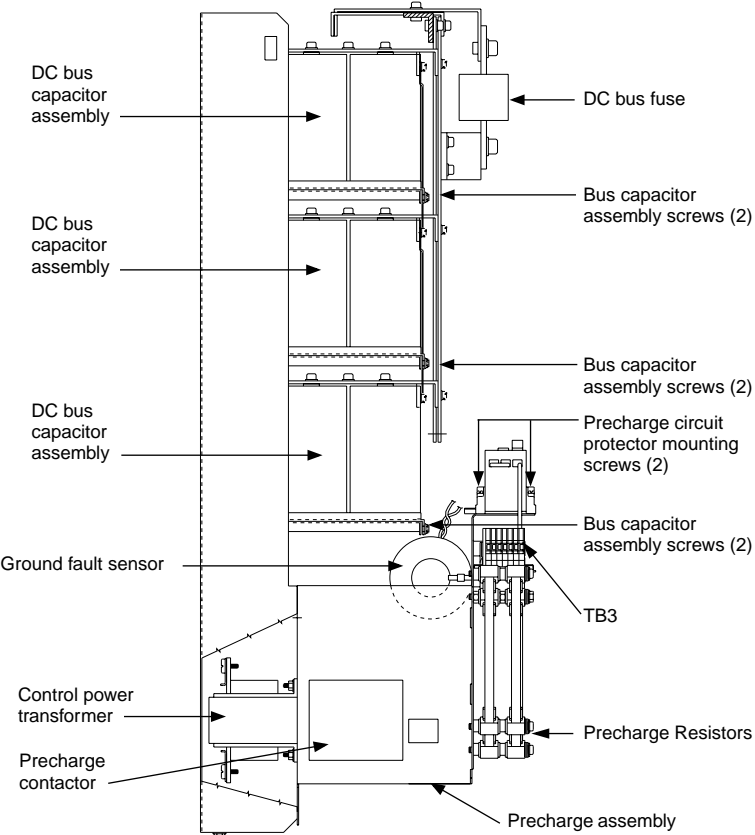

Figure 4.1.25: DC Bus Capacitor Mounting Diagram—Side View
12. Using a drive socket, loosen and remove the two bus capacitor assembly screws holding the carriage of the bus capacitor assembly (see Figure 4.1.25 on page 4.1.60). Remove the bus capacitor assembly.